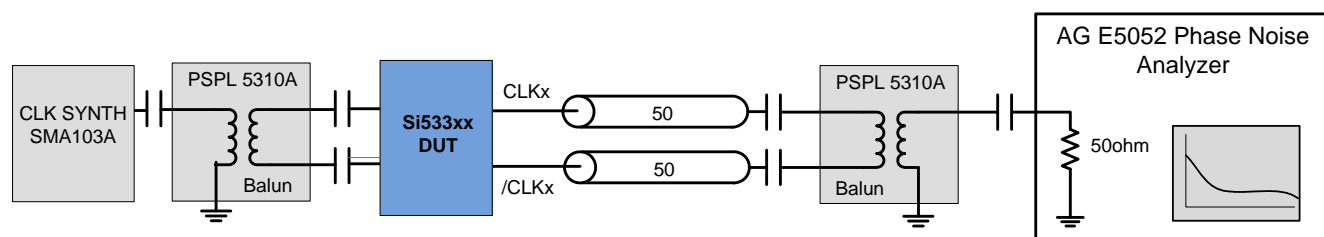

Figure 1. Differential Measurement Method Using a Balun
3. Measured differentially using a balun at the phase noise analyzer input. See Figure 1.